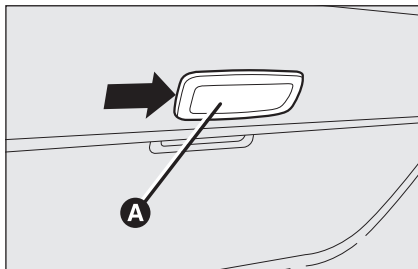

fig. 40
- remove the light unit **A**-fig. 40 levering in the point shown by the arrow;